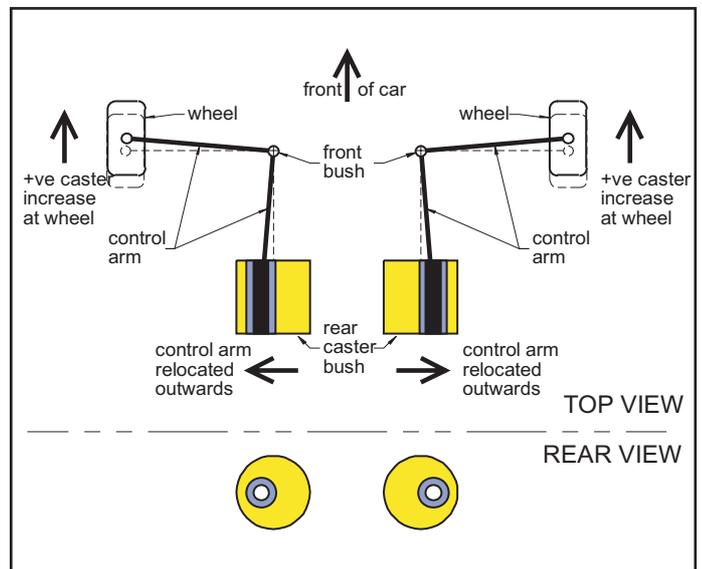

Figure 1.
6. Press new Whiteline caster bushes into original brackets and slide the bush onto the control arm rear pin. Refer to Fig. 1 for correct alignment of bushes and crush tubes.